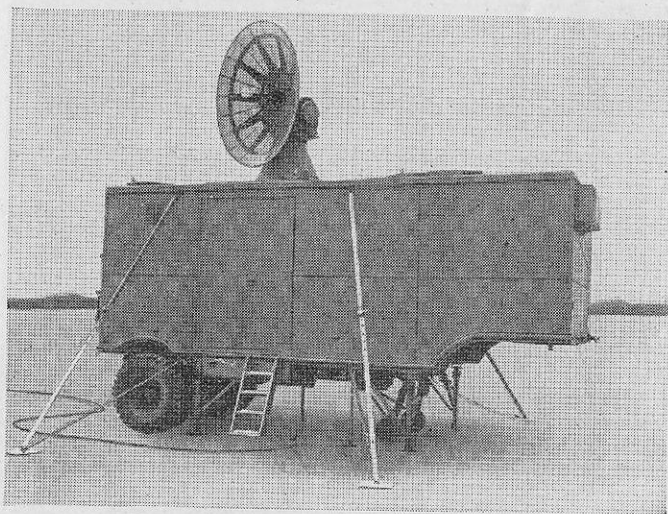

FIGURE 3.—Trailer in operating position.
■ 6. GENERAL DESCRIPTION.—a. The entire SCR-584 is built into the trailer K-78-A. (See fig. 3.) In outward appearance, it closely resembles a highway trailer of the conventional military type. It has a van type body equipped with double doors on the right side toward the rear of the body, horizontally divided rear doors, and a small exit door located on the left side near the front. In the roof of the trailer are located the split hinged hatch doors which are closed when the vehicle is in transport, and which are opened to permit elevation of the antenna pedestal, when the equipment is set up for operation.